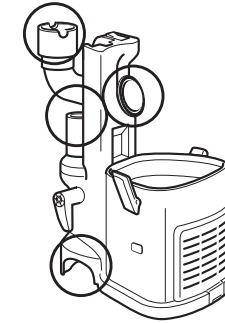

Fig. 29
- Remove the dust cup and wand and detach the canister from the motorized floor nozzle. Check all openings for any blockages. **(Fig. 29)**